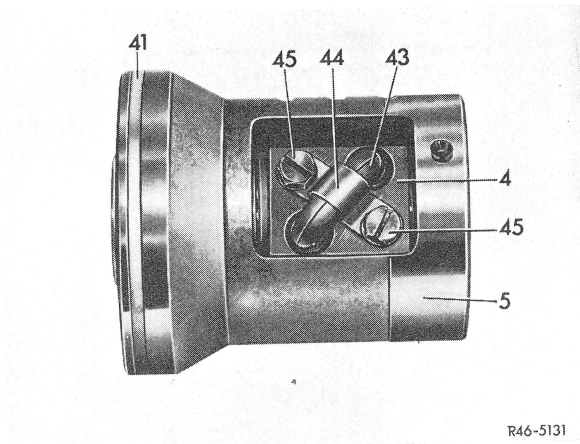

Fig. 19
20 Unscrew hex. screws (45), remove fastening clip (44) and both ball guide halves (43) (Fig. 19).